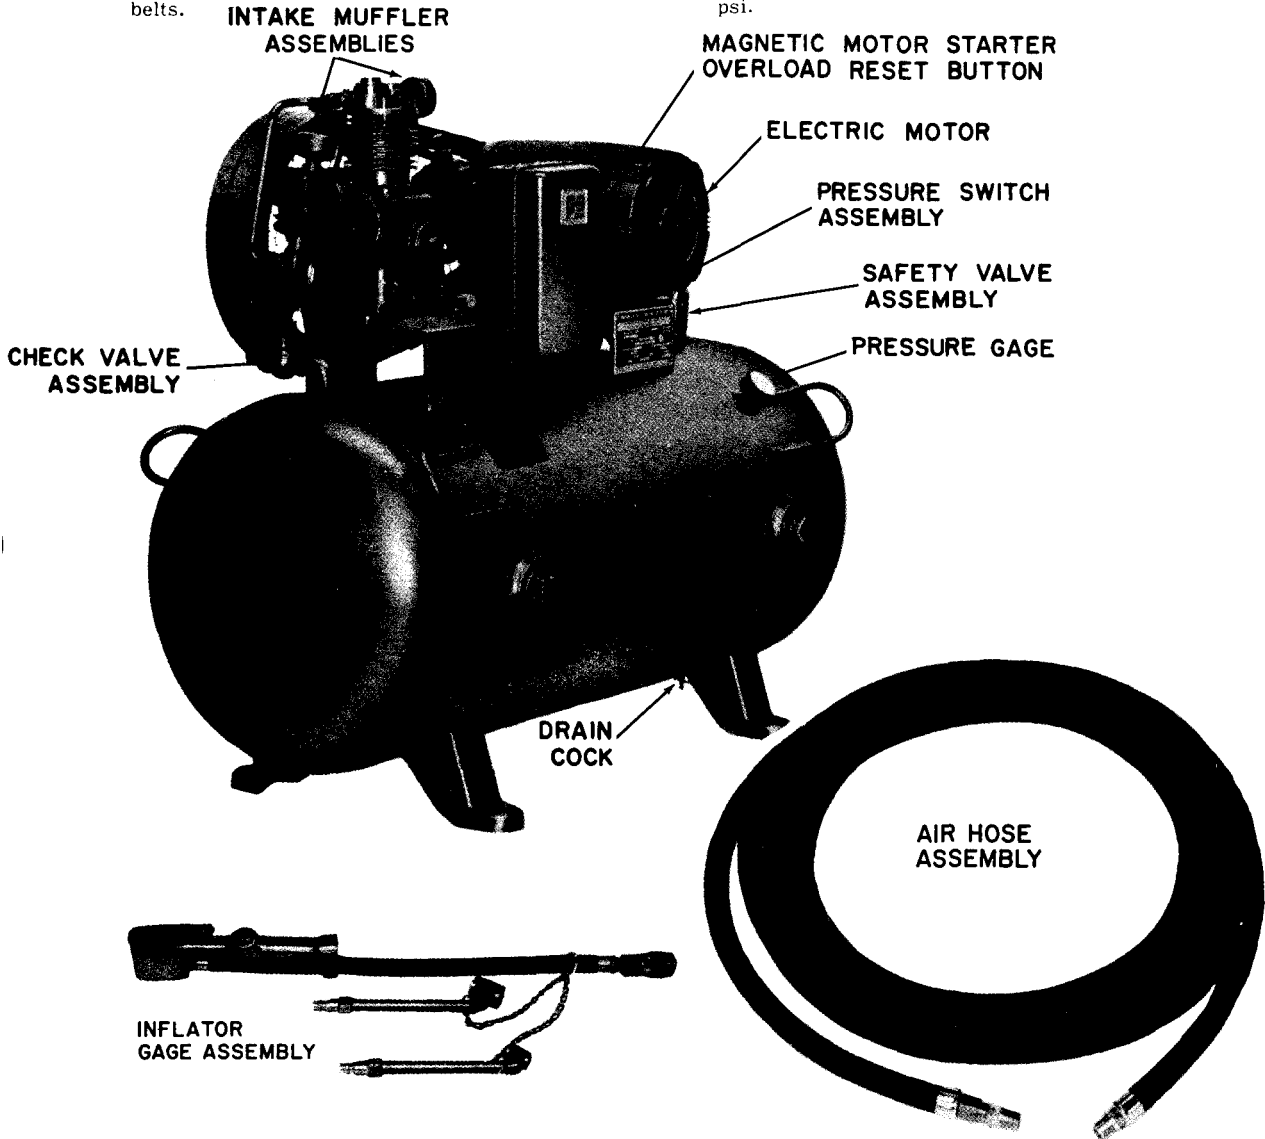

Figure 1. 60CAW20HM-1,-2) Air Compressor
The 60CAW20HM-1,-2 (fig. 1) is a three cylinder, reciprocating type air compressor capable of delivering 5 cubic feet per minute. The compressor assembly and associated electric motor are mounted on a frame which is welded to the air receiver, a 60 gallon steel tank. The electric motor drives the compressor assembly by means of a matched pair of V belts.
- a. Connect air hose assembly (**figure 1**) to globe valve (**15 fig.8**) and connect inflator gage assem. (**fig. 1**) to air hose assembly.